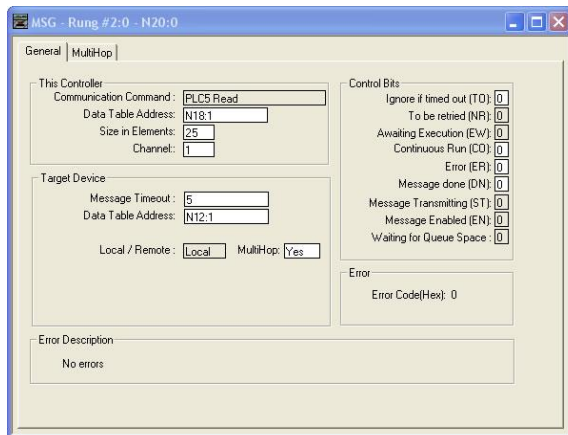

Figure 55: MSG Configuration, "General" Tab
- b) Upon hitting the <ENTER> key while in the “Control Block” entry box, the MSG Properties dialog box should appear (or it can be opened by clicking on the “Setup Screen” button at the bottom of the MSG instruction). Refer to Figure 55.